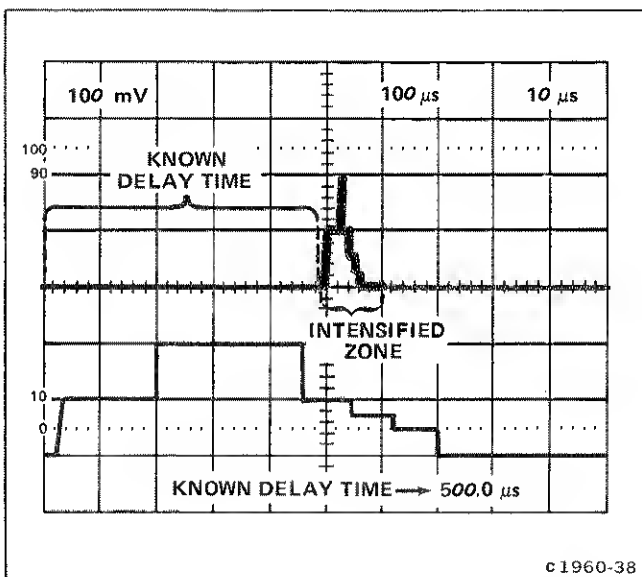

Figure 2-11. Examining an event that occurs within a selected time interval after a known delay time in the delay-time mode.
*For a better look at the delayed (B) sweep waveform, set the mainframe to the B horizontal mode and the amplifier-unit deflection-factor to increase the display amplitude. Do not change the 7B15 TIME/DIV setting.*
- b. Set the appropriate triggering, position, deflection-factor, and sweep-rate controls for the desired dual-trace display. See the example in Figure 2-11.
*If there is excessive jitter in the delayed (B) sweep display, refer to the Triggered Delayed Sweep Magnification discussion.*
- d. Set the delayed (B) sweep rate (i.e., the intensified zone length) for the desired time interval after the delay time selected in part c. Multiply the delayed (B) sweep rate by 10 to determine the actual displayed delayed (B) sweep time interval. See the example in Figure 2-11.
- e. Observe the magnified event to be examined on the delayed (B) sweep.
*For a better look at the delayed (B) sweep waveform, set the mainframe to the B horizontal mode and the amplifier plug-in unit deflection-factor to increase the display amplitude. Do not change the 7B15 TIME/DIV setting.*